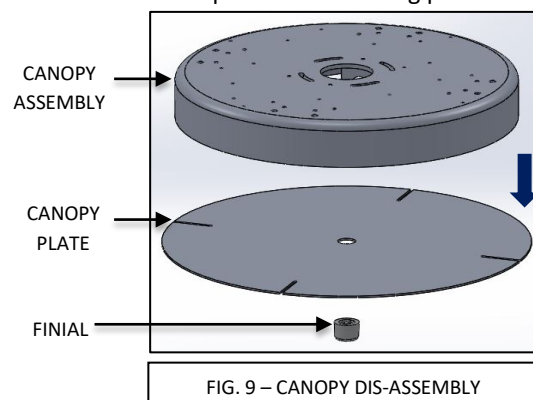

FIG. 9 - CANOPY DIS-ASSEMBLY
1. Dis-assemble the FINIAL and the CANOPY PLATE from the CANOPY ASSEMBLY as shown in FIG. 9 below.